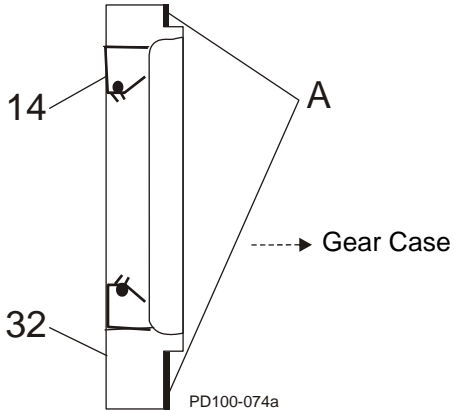

Figure 55 - Install Bearing Retainer
18. Coat the retainer flanges with silicone sealant (Figure 55, item A). (Gore-Tex® sealing tape can be used on silicone-free models.) The grease seal (item 14) should be flush with the front of the bearing retainer. On the 030 models, the grease seal is positioned against the step on the inside diameter of the retainer.
19. Install the bearing retainers (Figure 55, item 32).